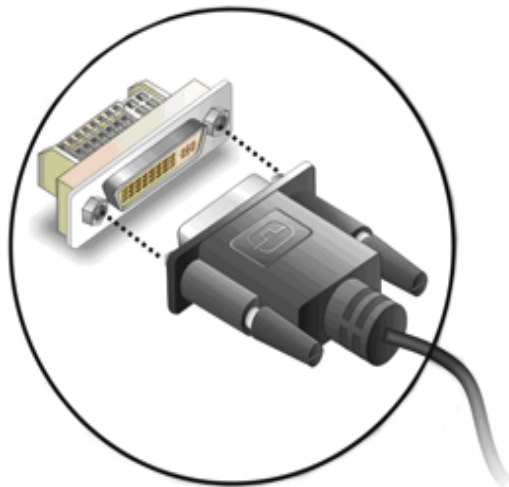

Figure 5-16: DVI Connector
- Step 3:** **Insert the DVI-I connector** Once the connectors are properly aligned with the male connector, insert the male connector from the digital display device into the female connector on the 3307800. See **Figure 5-16**.